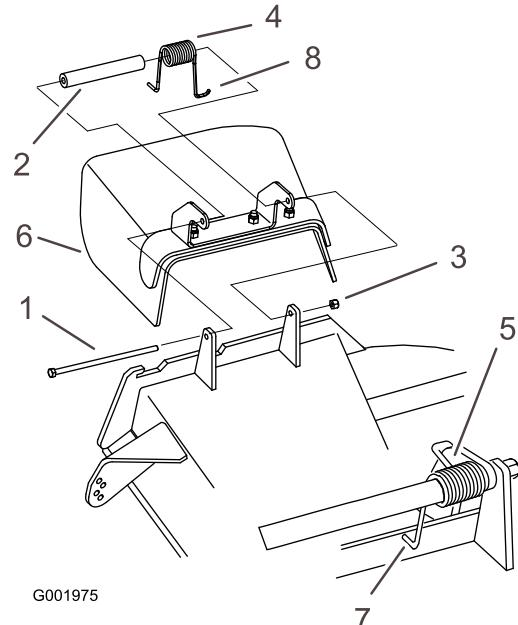

Figure 85
**Note:** Make sure that 1 J-hook end of spring is installed behind deck edge before installing the bolt as shown in Figure 85.
6. Place 1 J-hook end of the spring around the grass deflector (Figure 85).
1. Remove the locknut, bolt, spring, and spacer holding the deflector to the pivot brackets (Figure 85).